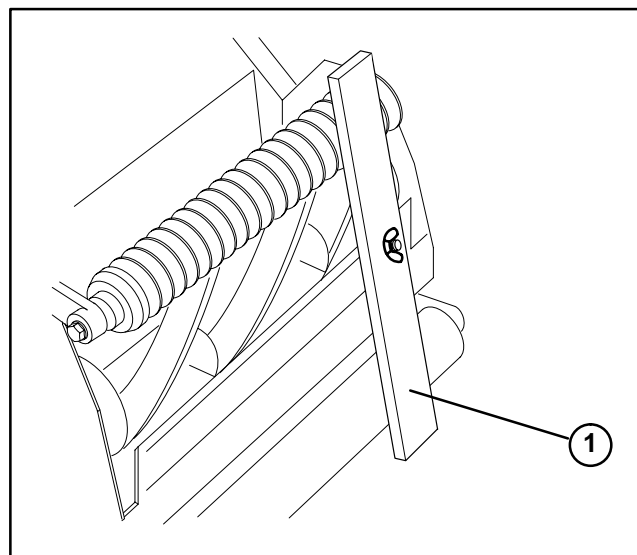

Figure 16
2. Place gauge bar across front and rear rollers. Verify at each end (Fig. 16). Adjust as required.